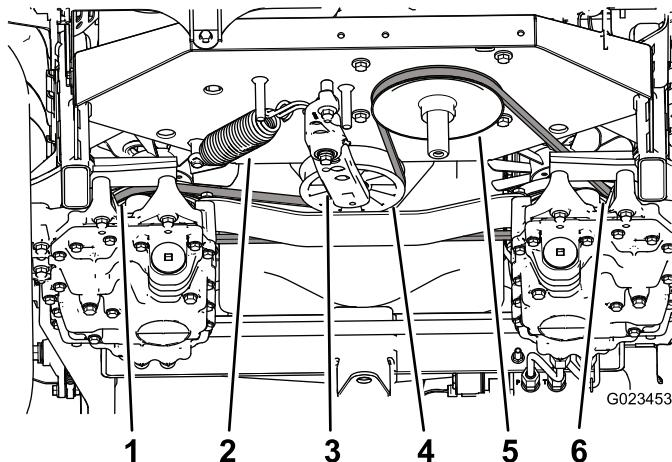

Figure 56
3. Use a ratchet in the square hole in the tensioner arm to counteract against the tensioner spring (Figure 56), and remove the belt from the tensioner pulley.
4. Unhook the tensioner spring from the tensioner arm and the frame (Figure 56).
- 8. Install the spring on the tensioner arm and the frame (Figure 56).